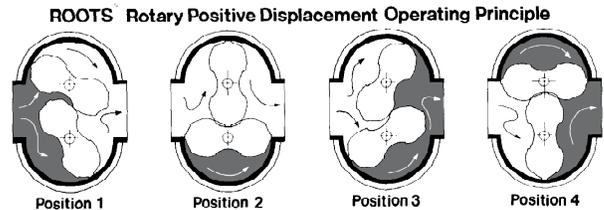

FIGURE 2. Operation of Rotary Meters
*Rotary Meters* have a set of rotating vanes or impellers that counter rotate inside a chamber. Each rotation of the vanes carry a known quantity of gas through the meter. (See Figure 2)